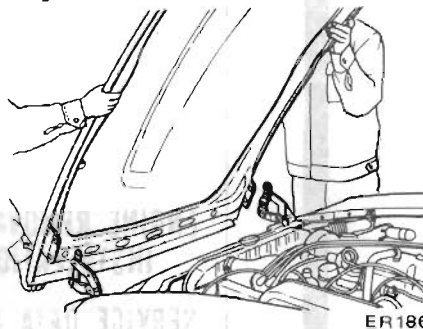

Fig. ER-2 Removing hood
- (1) Mark hood hinge locations on hood to facilitate proper reinstallation.
- (2) Support hood by hand and remove bolts securing it to hood hinge, taking care not to let hood slip when bolts are removed.
- (3) Remove hood from hood hinge with the help of an assistant. See Figure ER-2.